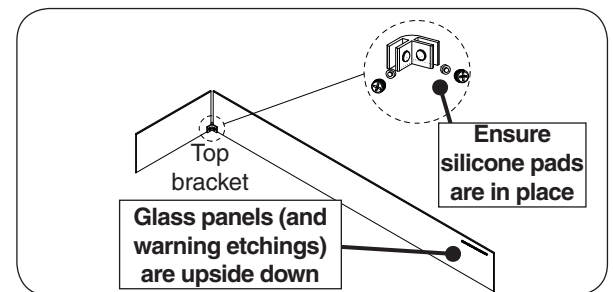

Fig. 20-4 Assemble 2 panels
1. Assemble 2 panels with top bracket. Assemble upside down (as shown) for ease of assembly. See Fig. 20-4.